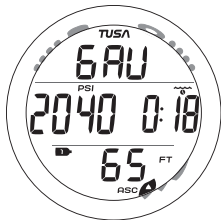

Fig. 99 - GAUG DIVE MAIN
**Gauge Dive Main** information includes (Fig. 99) -